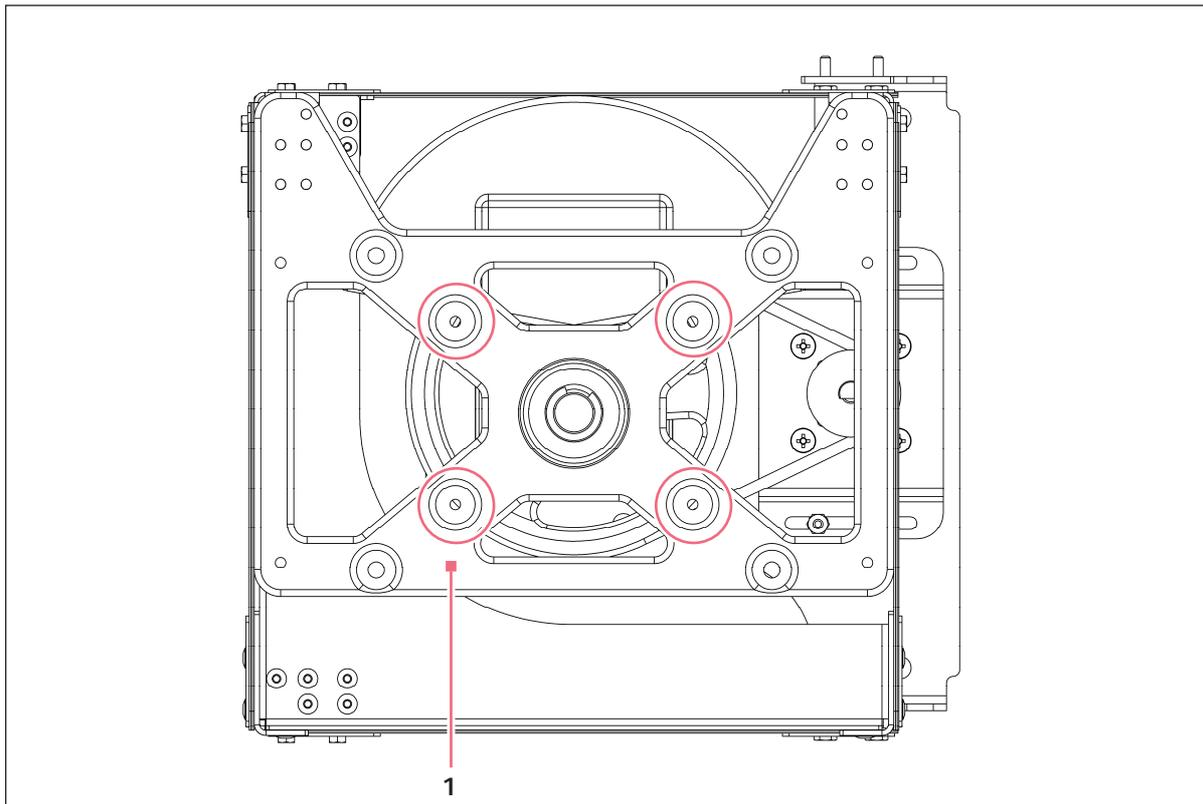

Fig. 4-1: Platform screw locations
The shaker is shipped with 4 Allen head platform screws (circled in red, (see Fig. 4-1 on p. 14)) installed in the 4 bearing housing uprights. The screws must be removed before a platform can be installed.
2. Using the 7/32 in hex key provided, remove the 4 Allen head platform screws (circled in red, (see Fig. 4-1 on p. 14)) from the subplatform.